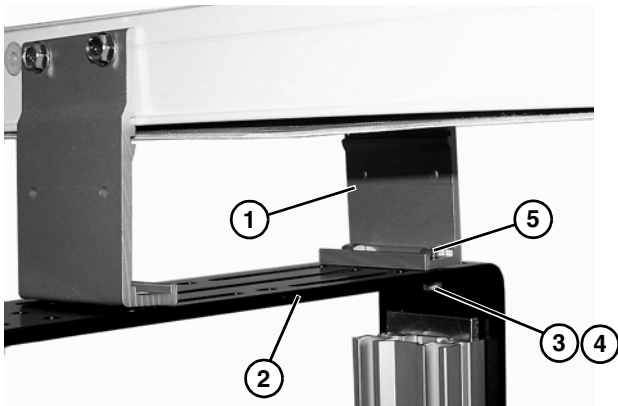

Figure 12
5. Fasten brackets (**Figure 12, item 1**) to support stand (**Figure 12, item 2**) with mounting screws (**Figure 12, item 3**), washers (**Figure 12, item 4**) and nuts (**Figure 12, item 5**).